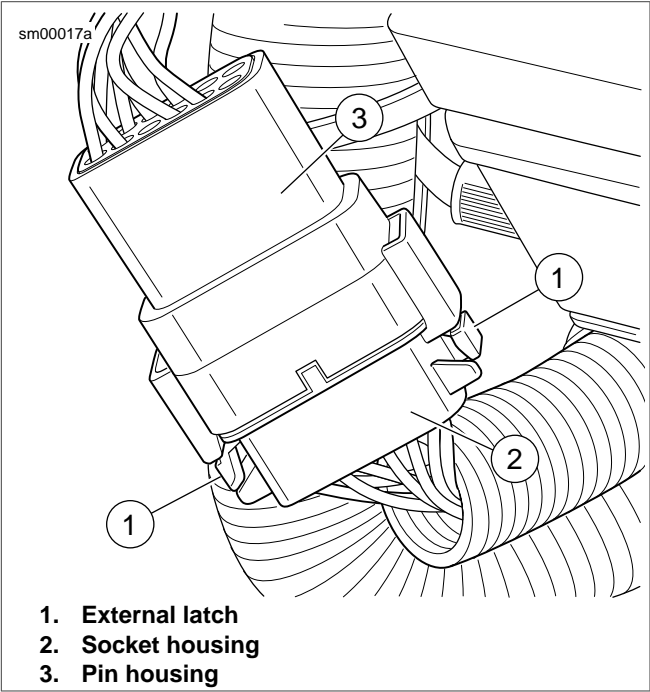

Figure A-29. Deutsch DT Sealed Connector
See Figure A-29. To separate the connector halves, Press the external latch(es) (1) on the socket housing (2) while rocking the pin (3) and socket housings.